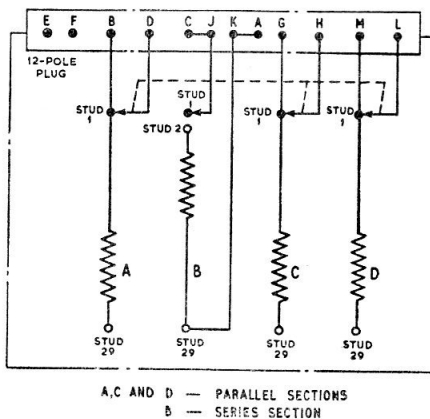

Fig. 3. Circuit diagram
4. The internal wiring of the switch is brought out to a 12-pole plug (Ref. No. Z560150) on the end of the switch. A circuit diagram is given in fig. 3.